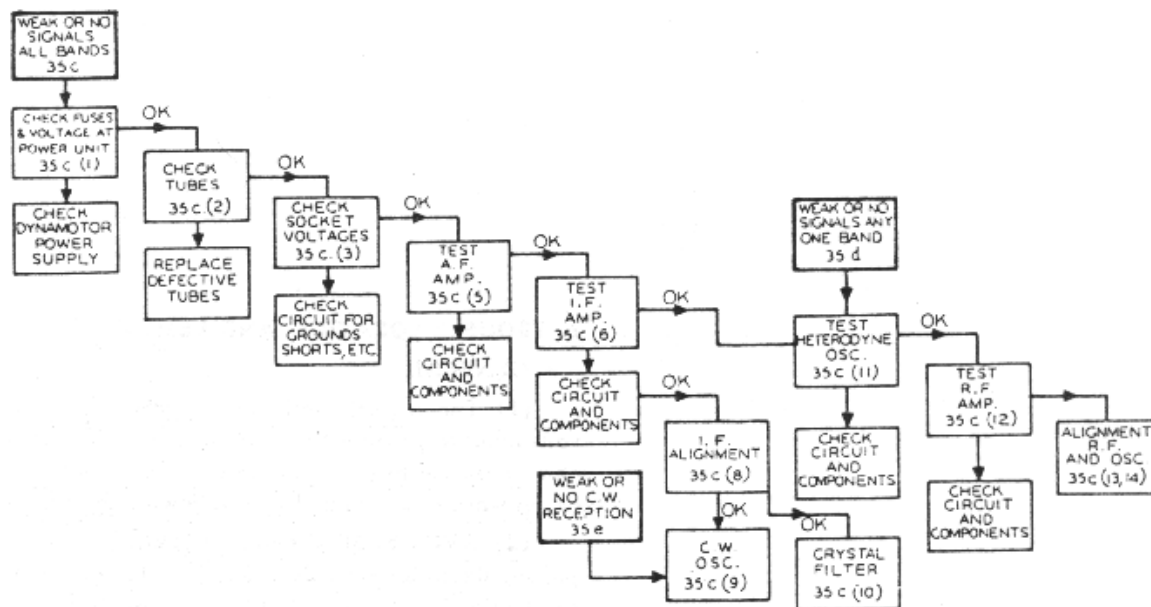
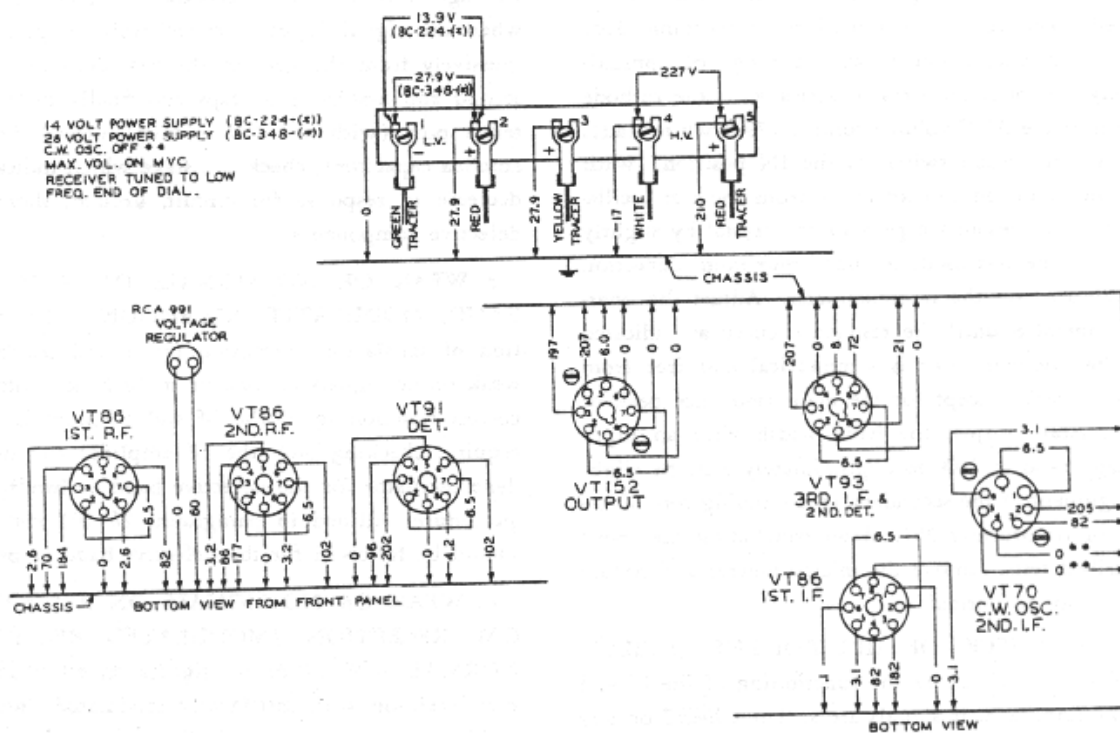

Figure 5-1 Trouble Location and Correction Diagram
Figure 5-2 Radio Receiver BC-348-(*) or BC-224-(*) -- Dynamotor and Tube
Figure 5-1 graphically outlines the procedure for trouble location, the numbers in each block referring to the paragraph in this section.
(1) CHECK OF DYNAMOTOR VOLTAGES. --When all signals on all bands are weak or no signals are heard even when known to be present, the procedure follows that shown in Figure 5-1. The voltages checked at the dynamotor terminal board should closely approximate the values shown in Figure 5-2. Conditions for measurement are as follows: Input 28-volts for Radio Receiver BC-348-(*) or 14volts for Radio Receiver BC-224-(*); "CRYSTAL" Switch Set to "OUT"; 'AVC-OFF-MVC' Switch Set to "MVC"; "INCREASE VOL." control set to maximum; "C.W. OSC." Switch Set to "OFF." Load 4,000 ohms resistance (output transformer connected for HI output impedance). If these readings do not approximate the values shown, check the fuse as well as the dynamotor and filter circuits, wiring and components.
(2) TUBE CHECK.--If the voltages at the dynamotor terminal board approximate the values given, check all tubes for emission and characteristics or replace all tubes with those of known average characteristics.
(3) CHECK OF SOCKET VOLTAGES.--If tubes check satisfactorily, or if, after replacing with tubes known to be good, the sensitivity is still low, check all tube socket voltages. The average socket voltages are given in Figure 5-2.
- (4) CHECK CIRCUIT WIRING AND COMPONENTS.--If the tube socket voltages do not approximate the values shown in figure 5-2, check the associated circuits and components for grounds, shorts, and similar defects.
- (5) TEST OF AUDIO-FREQUENCY AMPLIFIER.--Having checked all socket voltages and found the values to be correct, test the audio frequency amplifier. This can be checked by capacitively-coupling a 400-cycle voltage of approximately 2 volts rms from the detector diode socket prong to ground using a capacitor of 500,000 micromicrofarads. As an alternative, a modulated 915 kc signal of 2 volts may be coupled to this point and ground. Proper functioning of the audio amplifier will be indicated by an output well over 1.0 milliwatts for the 2 volt audio input or approximately 1 milliwatt output for 915 kc input. Check circuits, wiring and components if this order of response is not obtained.
- (6) TEST OF INTERMEDIATE-FREQUENCY AMPLIFIER.--Following a satisfactory test of the audio amplifier, check the intermediate frequency amplifier by capacitively coupling the modulated test oscillator to the grid cap of the first detector tube through a 100,000-micromicrofarad capacitor, with the oscillator frequency being adjusted to 915 kc. A rough check of the proper functioning of the i-f amplifier is indicated by a comfortable headphone output level with low input from the test oscillator. (Approximately 30 microvolts input for 10 milliwatts output.)
- (7) I-F AMPLIFIER CIRCUIT CHECK.--If the i-f amplifier does not respond as above or lacks sensitivity, a progressive check, stage by stage, should be made. The test oscillator, 915 kc (modulated 30% with 400 cycles), is connected through a 100,000 micromicrofarad capacitor to the second detector diode socket prong. A signal response indicates proper functioning. Coupling the test oscillator to the grid of the third i-f should indicate a decided gain in sensitivity. Proceeding similarly towards the first detector, each stage should show a decided gain. Circuit check a faulty stage for grounds, shorts, or defective components.
- (8) CHECK AND ADJUSTMENT OF C-W OSCILLATOR.--Check and adjust the c-w oscillator by coupling the 915 kc input (modulation off) to the grid of the first detector tube and switch the c-w oscillator ON. With the beat frequency control set at mid-position, the oscillator inductance tuning core 121 is adjusted for zero beat. If no c-w beat can be heard, check the c-w oscillator circuit for grounds, shorts, or defective components. With the c-w oscillator ON the screen voltage at the first and second i-f sockets drops to approximately 45 volts (measured to ground).
- (9) TEST AND ADJUSTMENT OF CRYSTAL BAND-PASS FILTER.--Normally the crystal bandpass filter is adjusted at the factory for a band width of 1,500 to 2,000 cycles at 10X down from resonance. Test this filter by applying an unmodulated signal of approximately 915 kc connected through a 0.1 mfd capacitor to the grid of the first detector tube. The c-w oscillator should be off during this test. To adjust the band width of the crystal filter, a signal generator or microvolter having an expanded tuning scale in the vicinity of 915 kc and having also an attenuator with a multiplier of 10 times (20db) is required. The following procedure is recommended: Connect a microammeter with a range of approximately 200 microamperes in series with the cathode return of the AVC volume control (79-B white lead). Throw the crystal switch to the IN position. With the unmodulated 915 kc input from the test oscillator, find the resonance peak of the crystal by slightly retuning the test oscillator until maximum deflection is indicated on the microammeter. Adjust the phasing control 8 until the resonance curve as indicated on the microammeter is symmetrical and free from dips or peaks except for the main resonance peak of the crystal. Adjust the band Width with an input voltage ratio of 10X to approximately 2 kc by slight realignment of the secondary (top) tuning core of the first i-f transformer 251. After concluding the above described tests, remove the microammeter and restore the circuit to normal.